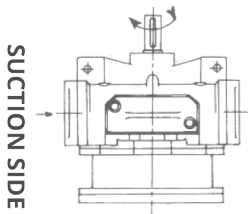

Fig. 7.1
- Check the direction of pump rotation (see figure 7.1 and 7.2).